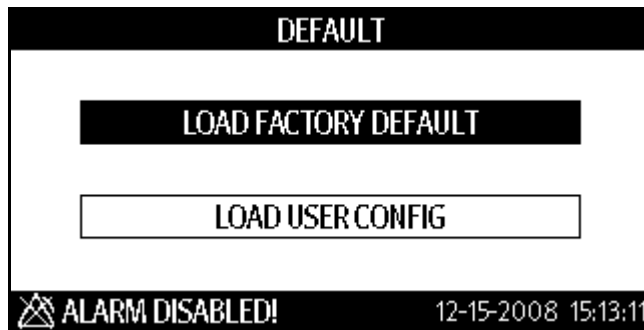

FIGURE 3-3 DEFAULT Configuration Load Dialog
2. Press  (16) or  (19) to highlight **DEFAULT** to display the DEFAULT dialog as shown in FIGURE 3-3.